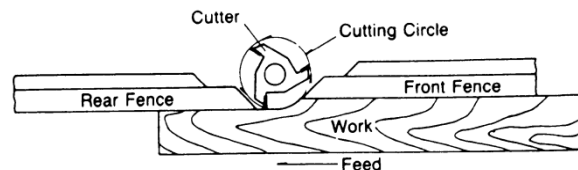

Figure 12
3. Advance the rear fence to contact the work as shown in Figure 12. This places the rear fence in line with the cutting circle.